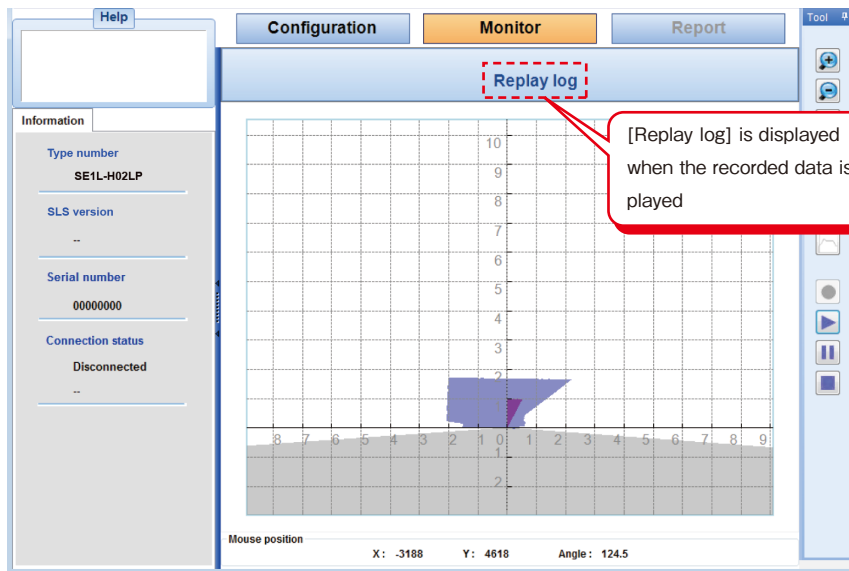

Figure 7-60. Replay log
- f) To play the recorded data, click the [Play] ► button, select the recorded data, file. Recorded data will be played automatically once the file is selected. [Replay log] is displayed when the recorded data is displayed as shown in figure 7-60.